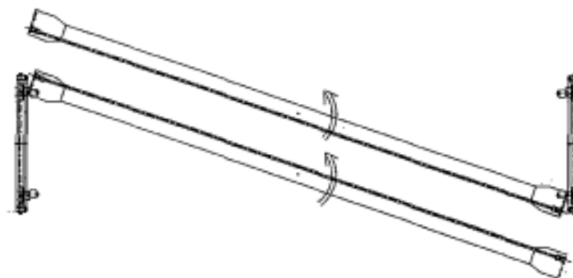

Fig. 5
- If the crane cannot be erected with the left and right end carriage frames attached to the girder, then first erect the end carriage frames on the travel rails as shown in Fig. 5. Next, turn the girders so as to fit between the travel rails and lift into position, and attach the girders to the end carriage frames on the travel rail. When assembling, set the end carriages to a right angle with the girder and square with one another, and adjust span as necessary. (Refer to Fig.5)